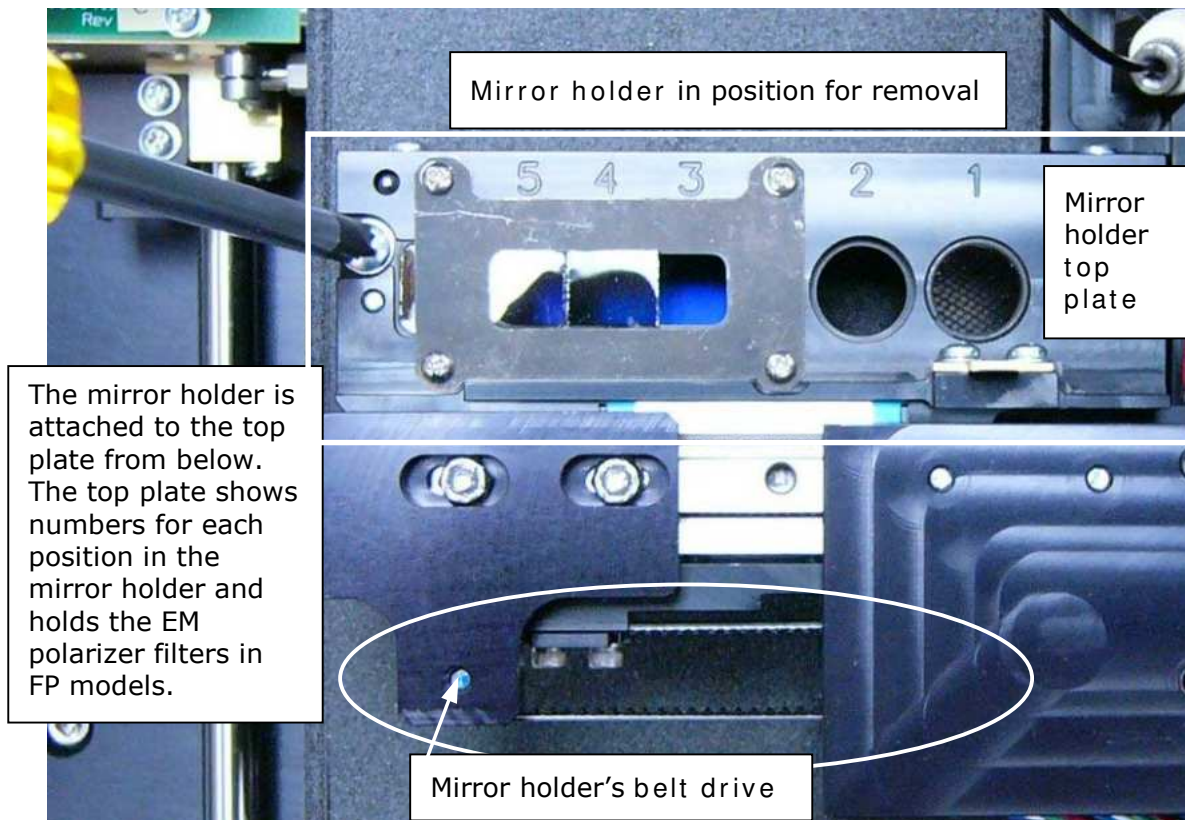

Figure 30: Mirror holder positioned for removal
2. Inside the reader, put the mirror holder underneath its top plate (see **Figure 30**). The holder's alignment pins will help guide it into place and because it is magnetized the holder will stay in place.